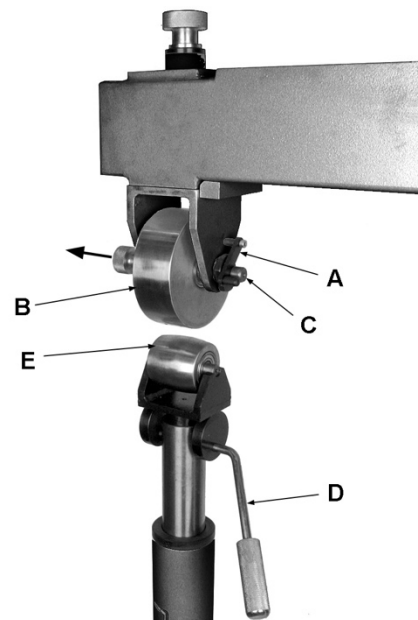
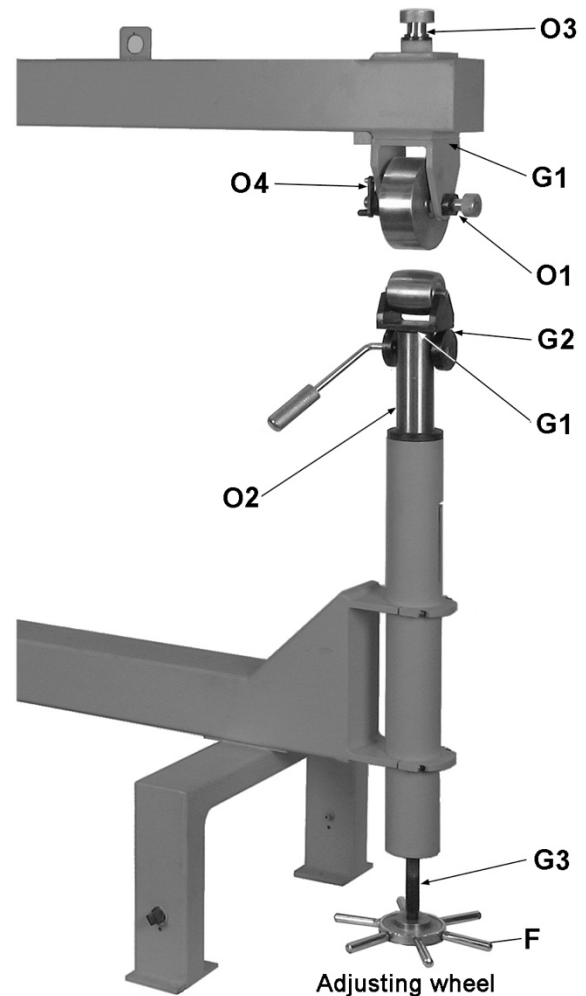

Figure 6-1
Figure 8-1
1. Rotate position block (A, Figure 6-1) to release shaft.
2. Securely hold upper wheel (B) with one hand and slide out upper wheel shaft (C). Set upper wheel in storage bracket on frame.
3. Reverse above procedure to install new upper wheel. Make sure position block (A) is re-engaged to secure shaft.
1. Release cam lever (D, Figure 6-1) and remove lower wheel (E). If needed, use adjusting wheel (see F, Figure 8-1) to lower post further for additional clearance.
3. Raise lower wheel assembly using adjusting wheel (F, Figure 8-1).
4. Rest material on lower wheel, and use adjusting wheel (F, Figure 8-1) to bring material into contact with upper wheel. Note: Do not use excessive pressure; use lightest pressure necessary to obtain desired result.
6. Rotate adjusting wheel (F, Figure 8-1) as needed during operation to maintain proper pressure.
Refer to Figure 8-1.